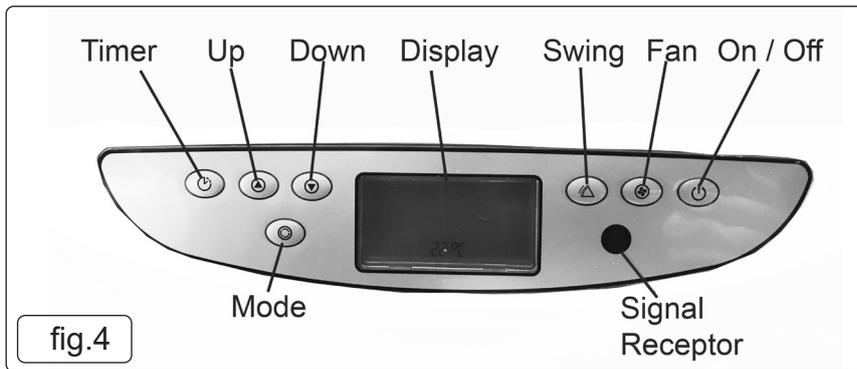

fig.4
5.1. CONTROL FUNCTIONS (FIG.4, FIG.5)